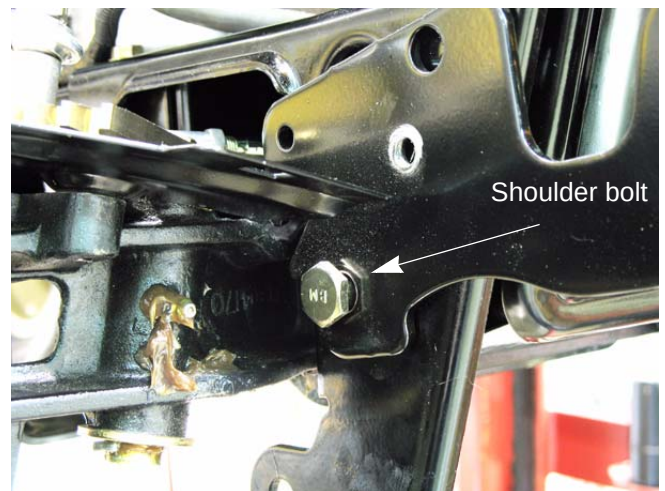

Figure 4.3
2. Pull the bumper straight forward, sliding the bumper off of the shoulder bolts. See Figure 4.3.